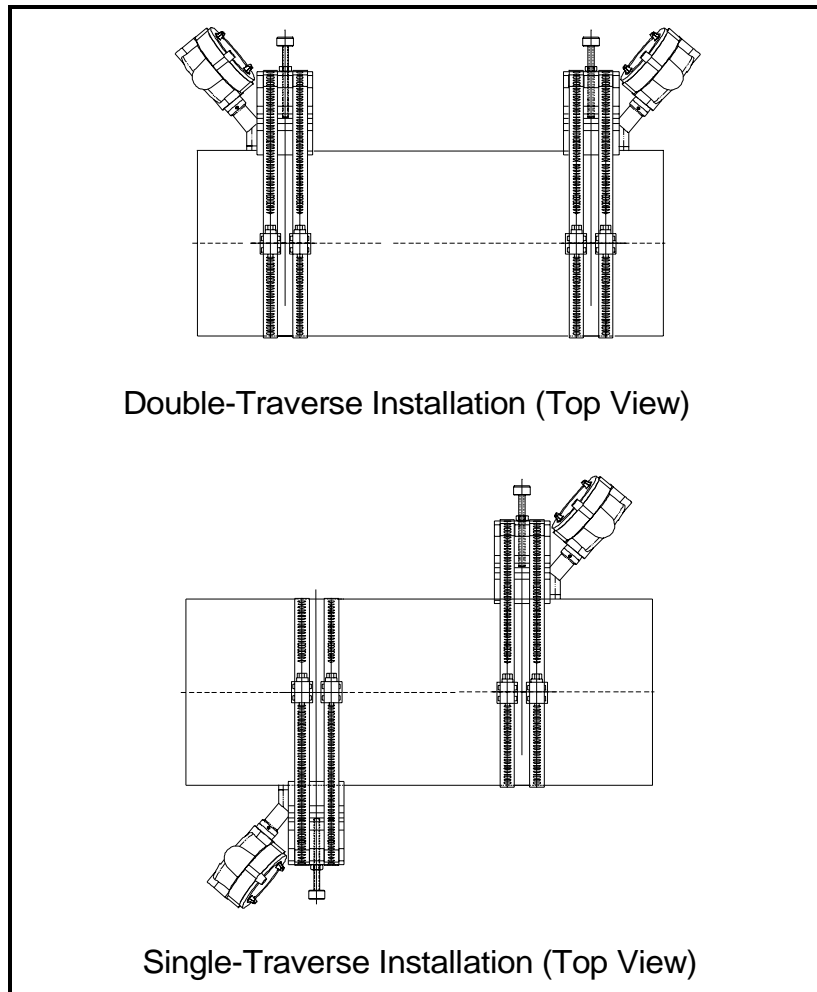

Figure 10: Completed GCF Installations with Transducers
7. Repeat Steps 1 to 6 to mount the other transducer in the remaining block. See Figure 10 on the next page for completed installations.